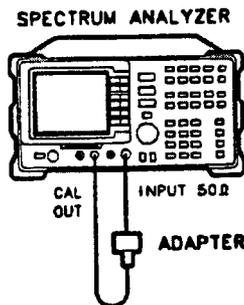

Figure 2-17. CAL AMPTD Adjustment Routine Setup
1. Connect the CAL OUT to the INPUT 50Ω using a BNC cable. See Figure 2-17.